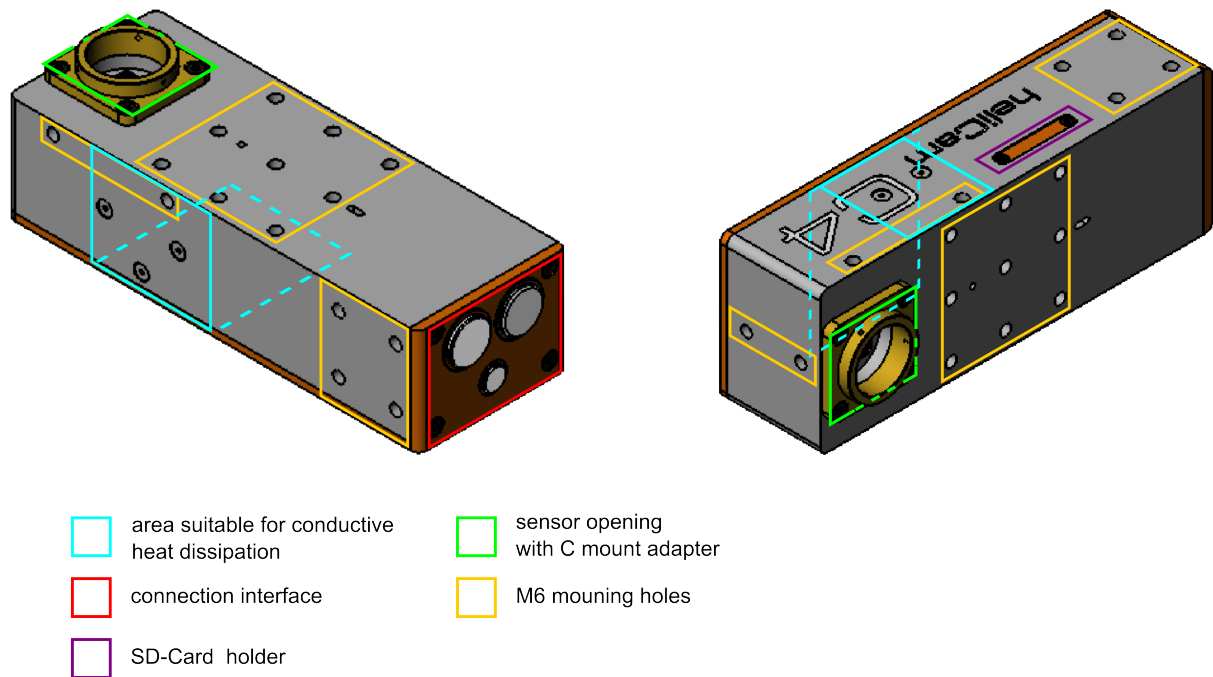

Fig. 2.1: heliCam™ C4 Exterior
In this document, the term *heliCam™ C4* refers to the physical camera, which performs in-pixel lock-in amplification of optical signals. Several elements on its surface are important for its installation and operation or are prone to damage if handled improperly (see Fig. 2.1). Hereafter, each of them is elaborated on.
- the heliCam™ C4 may be thermally well-connected to a heat sink with a thermal resistance $< 0.65\text{ K/W}$, e.g., an aluminum surface $> 0.14\text{ m}^2$ with a recommended length / cross-section ratio $< 50\text{ m}^{-1}$. The areas most suitable for dissipating heat by conduction are marked in Fig. 2.1.
The lock-in camera's light-sensitive zone - the front of its image sensor - is located within a shallow cavity, as shown in Fig. 2.1. The heliCam™ C4 opening has a C mount. By way of these standardized screw threads, corresponding objectives may be affixed at a normed distance from the sensor.
In an experimental setup, the camera's position may be fixed by means of dedicated M6x1.0 mm - 6H mounting holes (9 x ↓ 4 mm on the front, 6 x ↓ 5 mm on left and right faces each, 2 x ↓ 4 mm on top, see Fig. 2.1 and technical drawings in *Annex*).
The heliCam™ C4 stores its file system on an SD card, which is located underneath a screwed-tight cover (see Fig. 2.1).